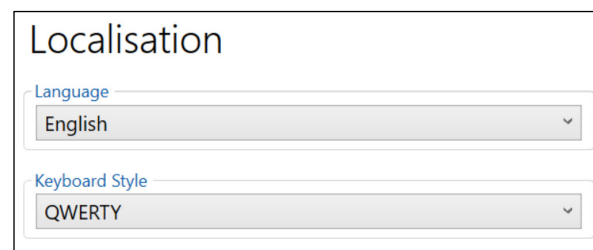

Figure 4-6 Language Selection
4. Select language and keyboard format from the drop down lists. See Figure 4-6